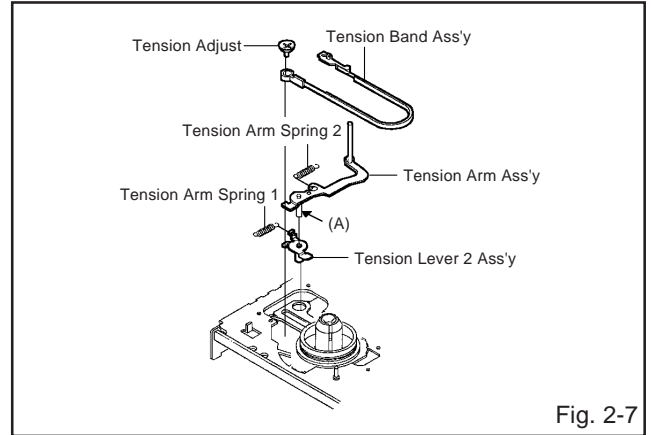

Fig. 2-7
2-7: TENSION BAND (Refer to Fig. 2-7)
2. Turbine Oil (Lubricating Grade #150) the area marked with A in Fig. 2-7.